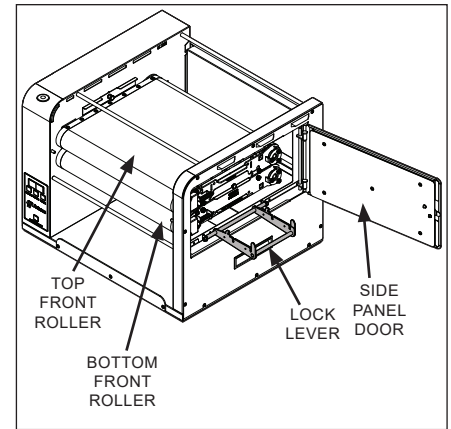

Figure 4. Unlock Side Panel
5. Unlock the side panel door using a screwdriver, coin, or similar tool. Open the side panel (Figure 4).
6. Unlock the Lock Lever (Figure 4).
5. Restore tension on the bottom belt by pushing UP and OUT (Figure 4).
6. Restore the tension on the top belt by pushing DOWN and OUT (Figure 4).